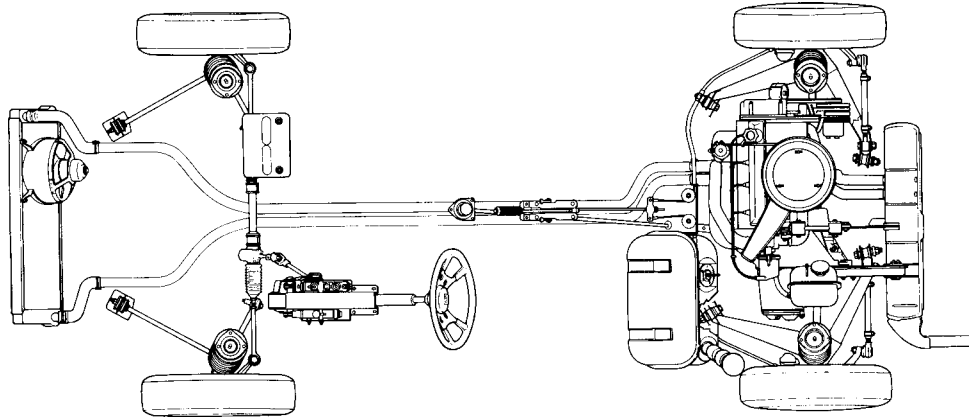

Fig. 1.2 Rear engine RWD ideal layout for a two seater coupe
- rear engine rear wheel drive (Fig. 1.2)